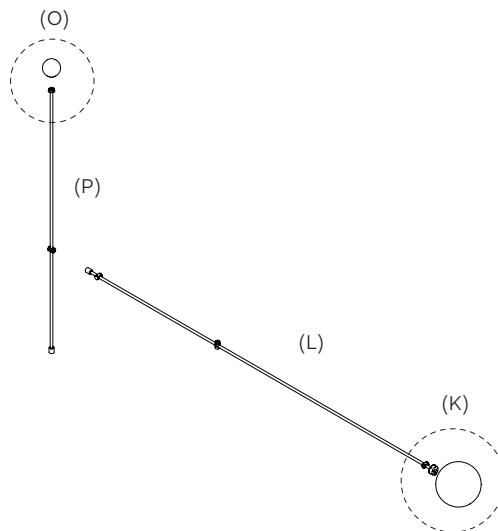
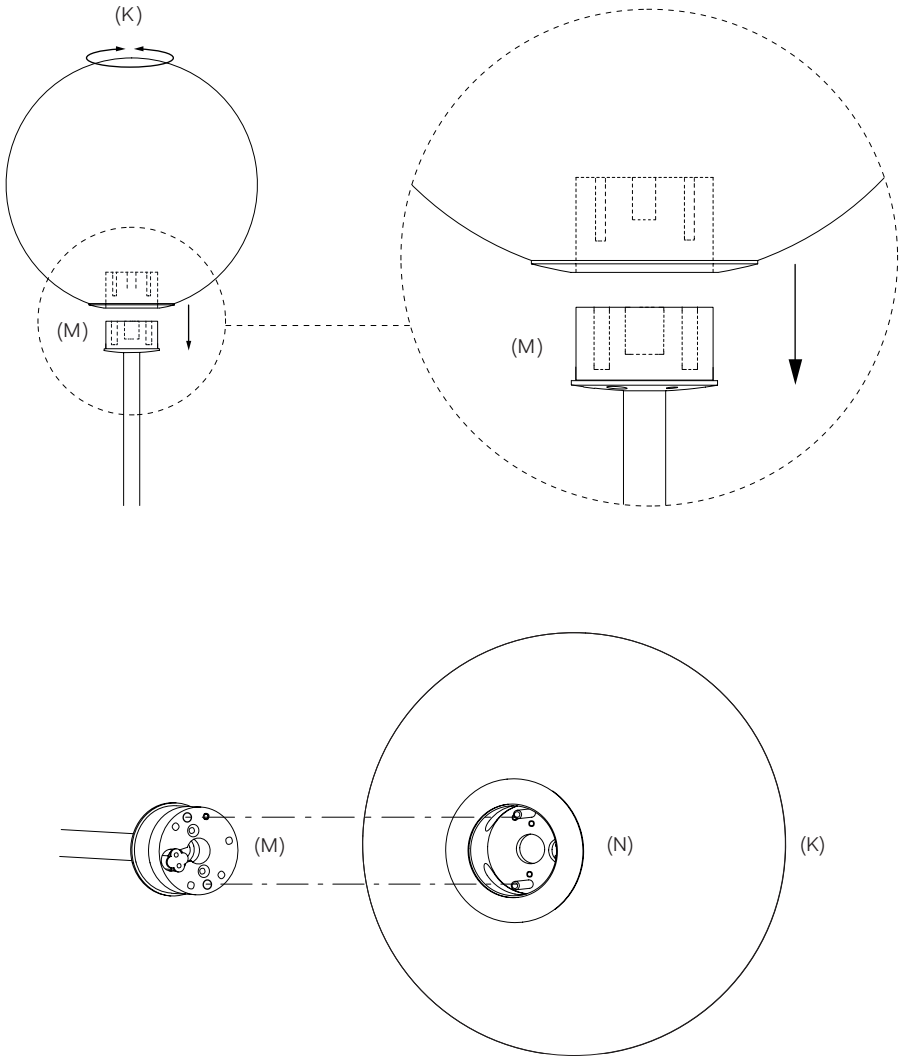

Fig. 13
Fig. 14
Secure the Large Globe (K) with the supplied M2×20 screw and hex key, ensuring it is tight to keep the connectors flush. See Fig.13 and Fig.14